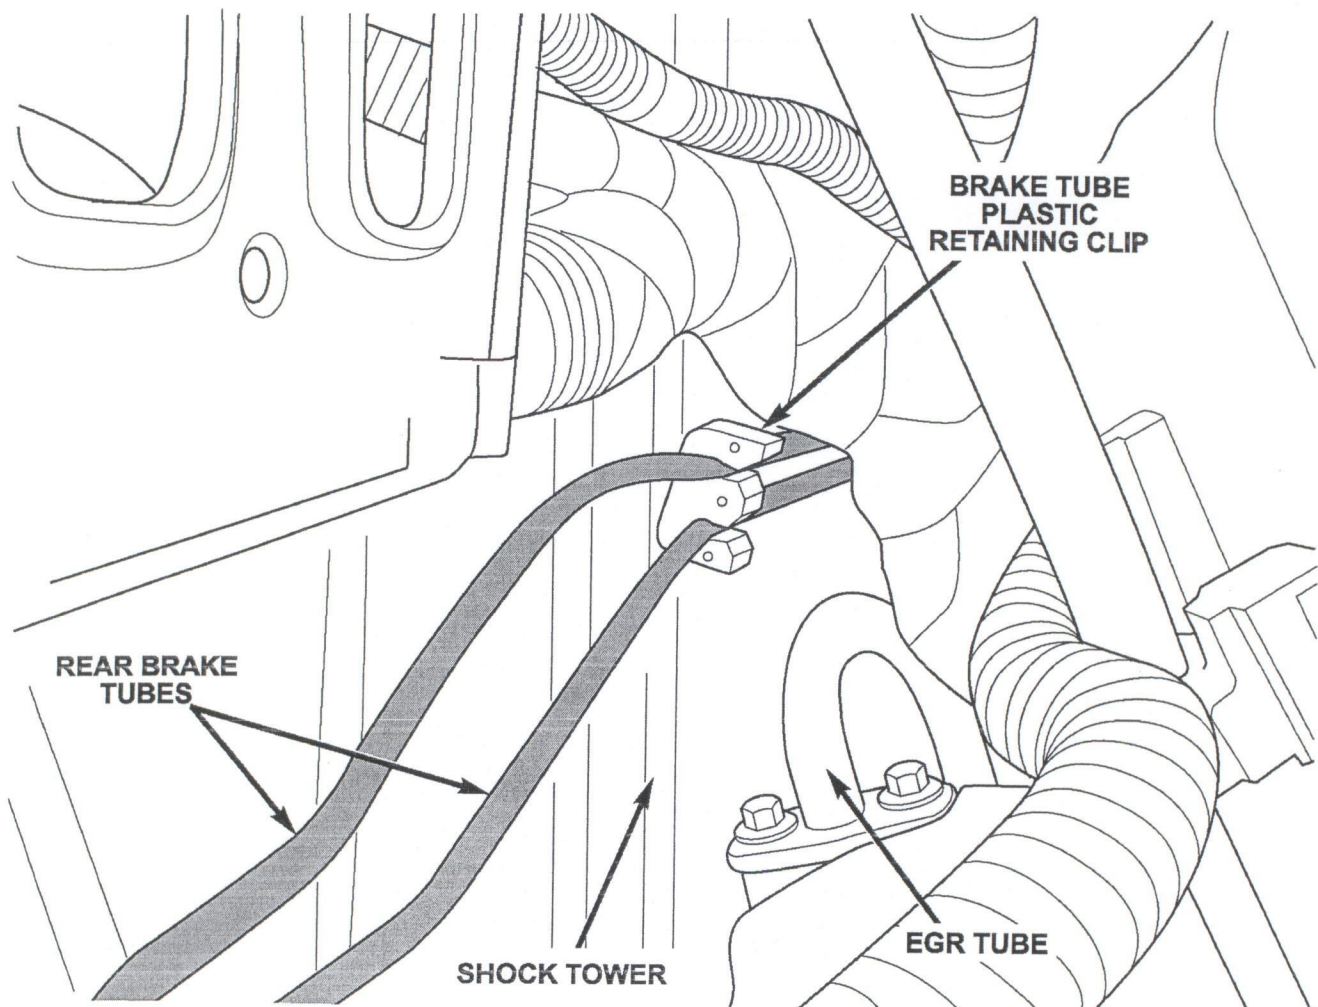

Figure 7
2. Insert the brake tube plastic retaining clip stud into the hole in the shock tower (Figure 7).
3. Clip the rear brake tubes into the new brake tube retainer clip (Figure 7).